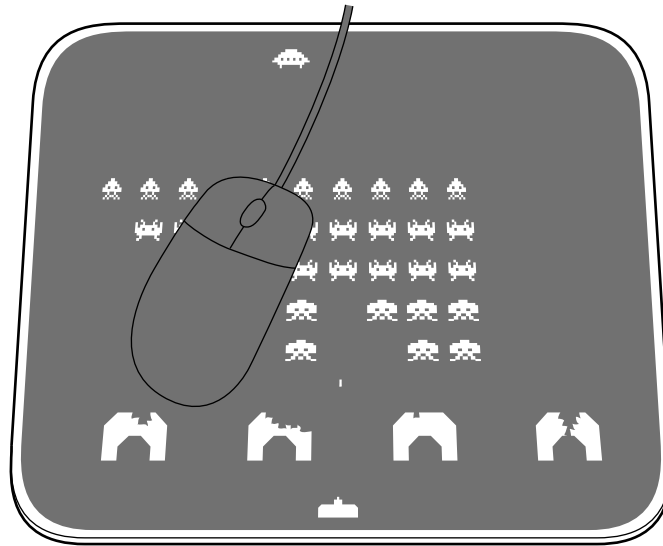

Fig. 6
- 8 Fig. 6 shows a mouse mat, which is a promotional gift from a computer game company.